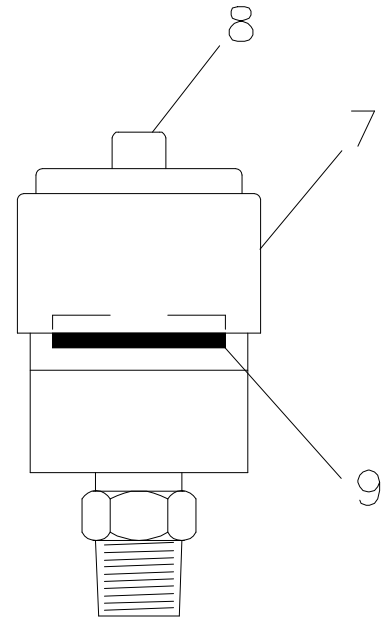

Fig. 5.3 Vacuum indicator
1. Release the snap clips (1) and remove the dust trap (2). Clean the trap.
2. Remove the element (3) from the housing (5). If the element is to be serviced for immediate re-use, reinstall the dust trap to protect the air intake system while cleaning the element.
5. Reset the vacuum indicator by pushing the reset button (8-Fig. 5.3).